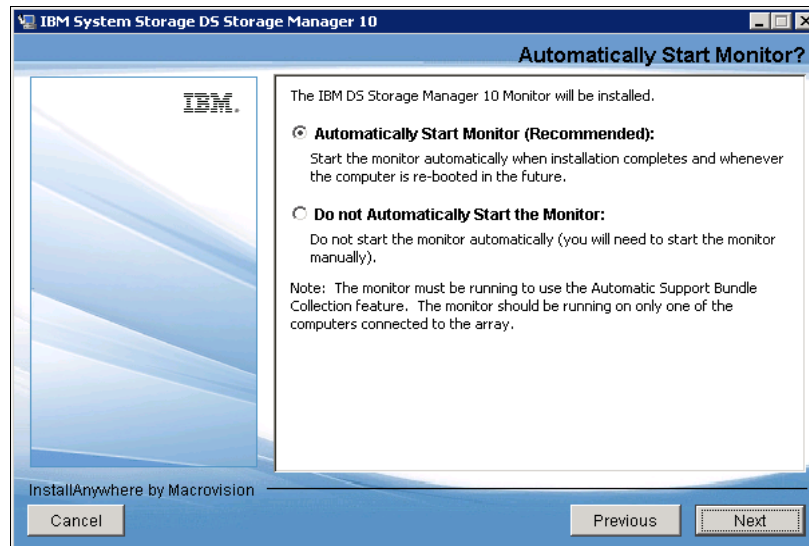

Figure 3-9 InstallAnywhere: Automatically Start Monitor
5. Decide whether you want to automatically start the Storage Manager Event Monitor, as shown in Figure 3-9, which depends on your particular management setup. In case there are several management machines, the Event Monitor must only run on one. If you want to use the Event Monitor with SNMP, you have to install the Microsoft SNMP service first, because the Event Monitor uses its functionality.